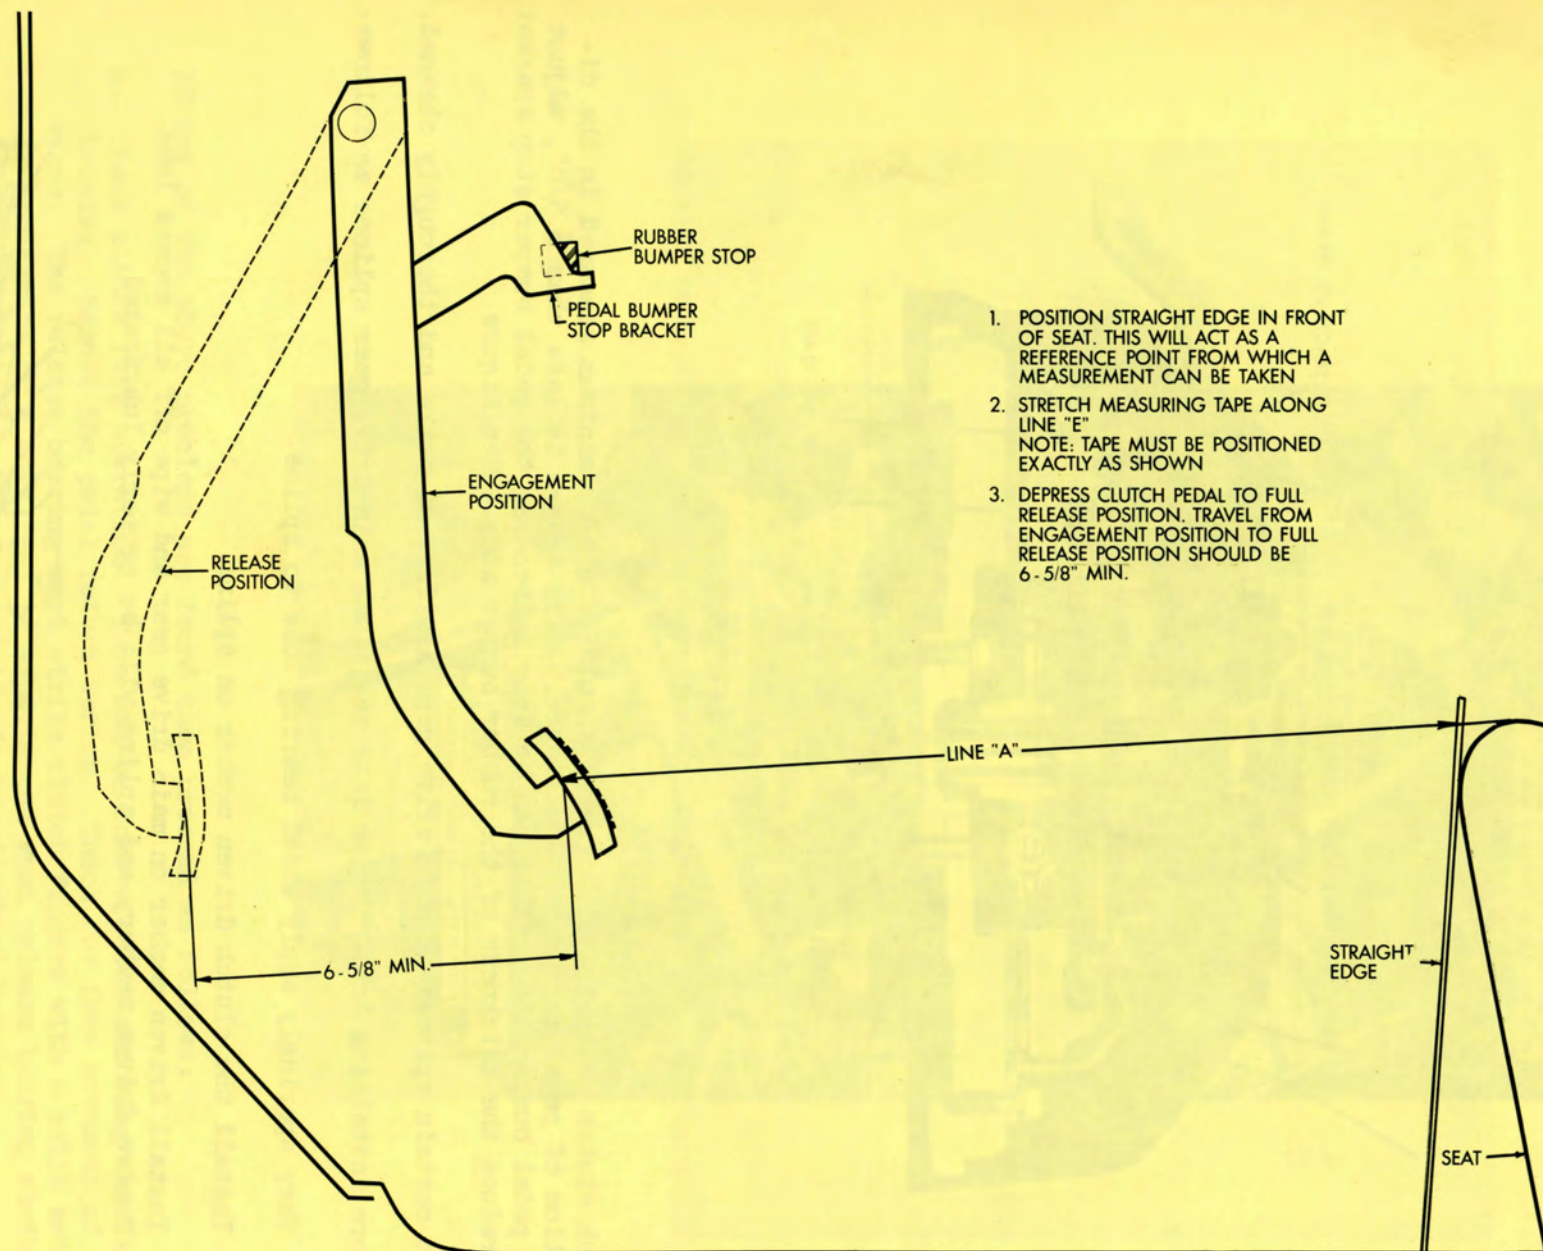

FIGURE 5
- c. Check clutch pedal travel. Travel should be  $6 \frac{5}{8}$ " minimum measured in the direction of pedal movement. See Figure 5. If travel is less than  $6 \frac{5}{8}$ ", adjust the pedal bumper stop. This can be done by bending the pedal bumper stop bracket, or reduce the thickness of the rubber bumper stop. See Figure 5.